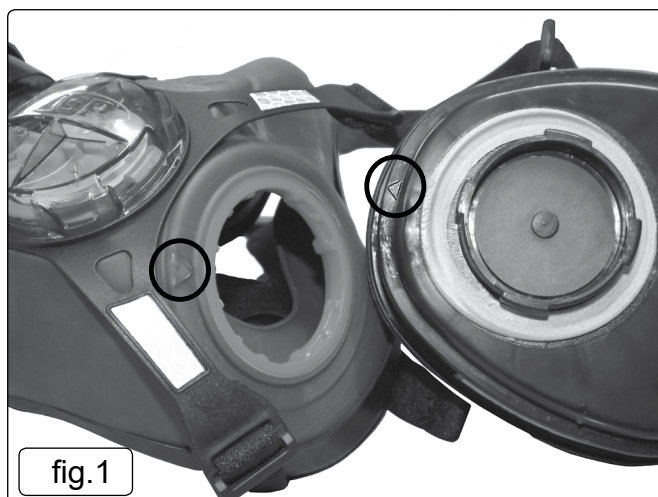

fig.1
4.1.1. Align the arrows (fig.1), press and twist the filter to the right until it clicks.